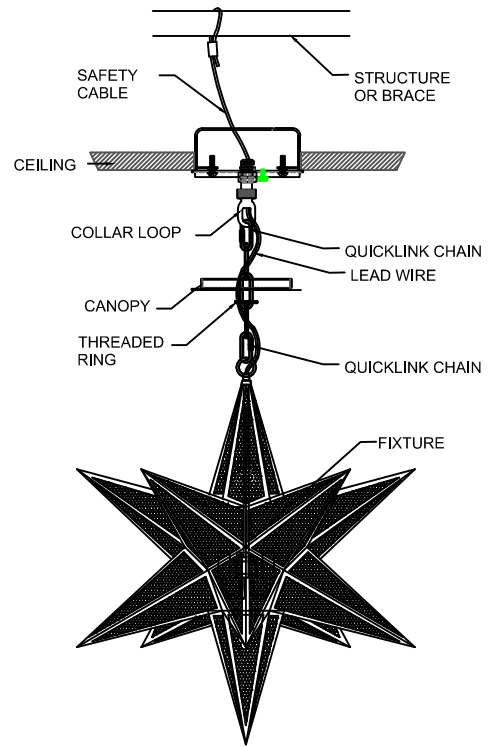

FIGURE-02
- Attach the chain to the collar loop on the canopy using a quick link chain. Determine the desired height of the fixture and remove excess chain link. Hang the fixture on the end of the chain link using a quick link chain. Run the lead wires & safety cable to the chain link up to the canopy. Unscrew the threaded ring from the collar loop. Allow the ring an canopy to slide down the chain to the top of the fixture. (See Figure -02)
- Attach the Safety cable to the building or structure or brace. (See Figure-02)